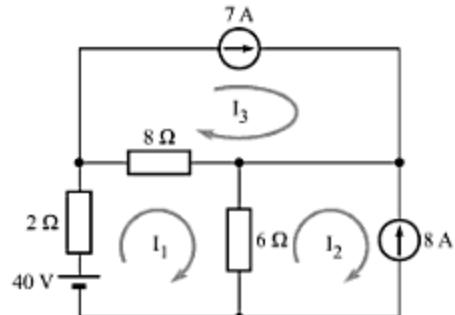

Fig. A-68
- A-26. Find the mesh currents in the circuit shown in Fig. A-68. [Ans.  $I_1 = 3\text{ A}$ ,  $I_2 = -8\text{ A}$ ,  $I_3 = 7\text{ A}$ ]